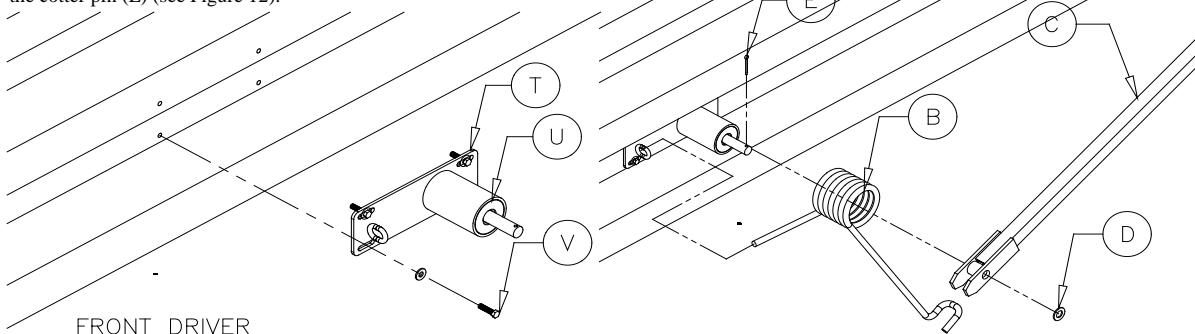

Figure 11
Using a 3/8"drill bit, drill through the center of the slots in the bracket (T) and through the box wall. Fasten the pivot arm bracket to the box with the 3/8"x1 1/2" hex bolt (V), 3/8" flat washers, and 3/8" nylon lock nuts provided (see Figure 11).